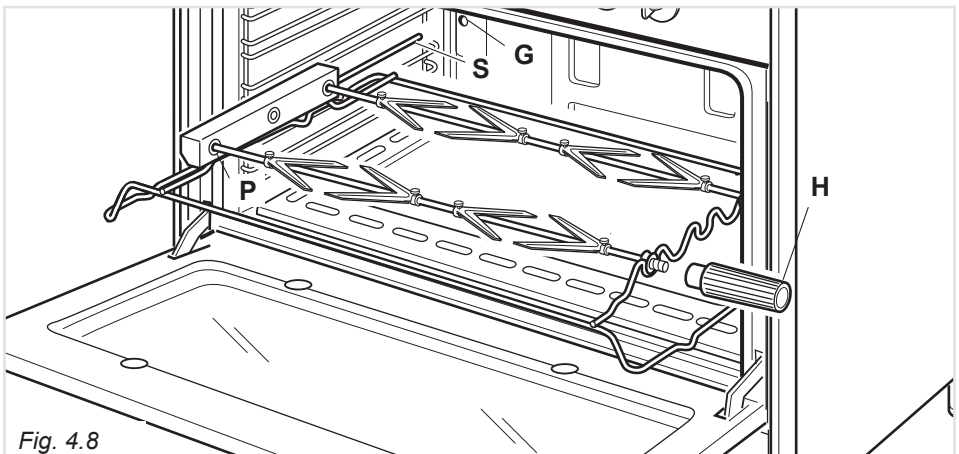

Fig. 4.8
- Insert the rod into the side gear opening "P" (fig. 4.8)